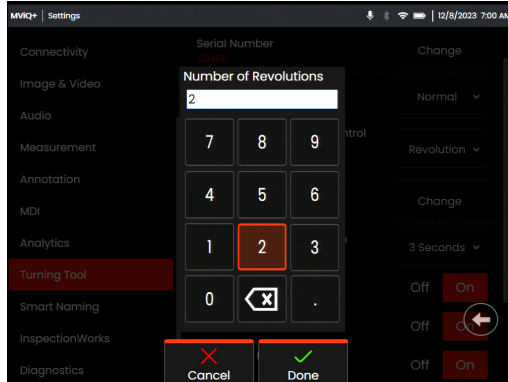

Fig 7a. 'Enter total blade count' prompt Fig
- Enter the total number of blades in that stage. This function enables the counter to return to blade number 1 at the appropriate point to ensure a complete revolution had been performed (Figure 7a). Maximum limit is 999 blades.